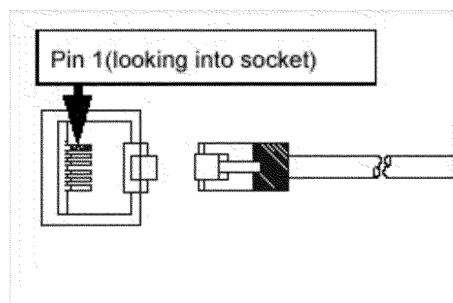
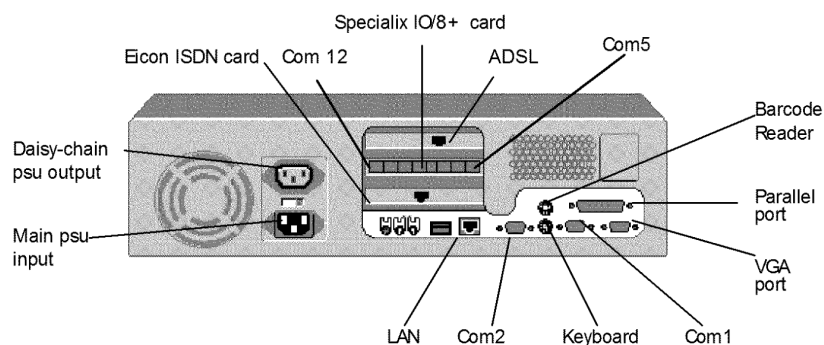

Figure 7 – the RJ12 plug
Figure 16
- 2) To disconnect the RJ12 plug (see figure 7 – the RJ12 plug) of the Segment 3 cable from the rear of the Counter PC, identify COM12 on the Specialix card at the rear of the base unit. (See Figures 16 and 17 for details) The RJ12 plug will be clipped into place – to unclip the plug and disconnect the cable, depress the small clip on the RJ12 plug and remove the cable.
There will be a LAN cable connected to the LAN socket marked in Figure 16 above, linking this counter to the branch router and via a hub other counter(s) in the Post Office Branch.